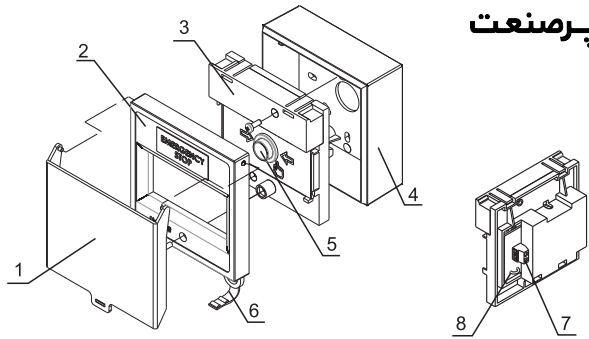

Fig.1/ Fig.1a
FD3050B consists of : surface mounting box (pos.4, fig.1), a carrier unit (pos.3, fig.1), a button (pos.5, fig.1), a breakable seal (pos.6, fig.1), a cover (pos.2, fig.1) and a protective cover (pos.1, fig.1).
1. Dismantle the basic components of the unit : the cover, the carrier unit, and the back box shown on fig.1 by unscrewing the fixings.